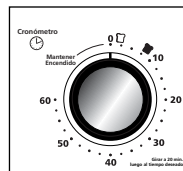

Figure 3
- 3. Timer Control Knob with Bell Signal** – Set cooking time up to 60 minutes. Will automatically turn the oven OFF at the end of the cooking time. (See Figure 3)